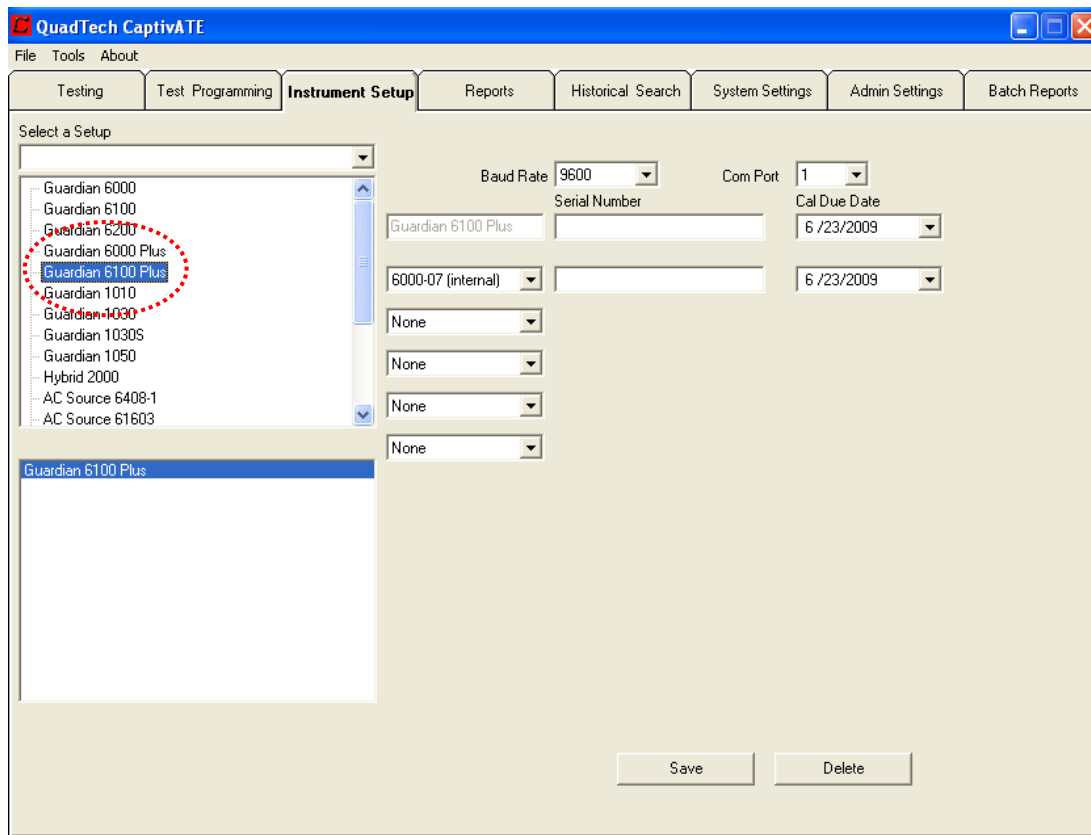

Figure 51 *Instrument Setup* screen
2. Select as an instrument the 6100 Plus by double-clicking on its name, as shown in Figure 51. The instrument name then appears in the lower list box window.